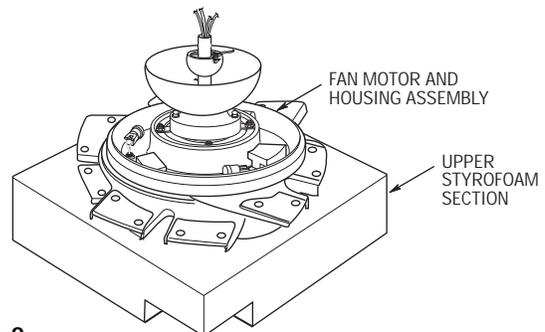

Figure 9
- 19. Lift the fan assembly from the styrofoam and remove the center styrofoam section. Turn the fan assembly over and carefully position it on the upper styrofoam section so that the hanger ball/downrod assembly is at the top (Figure 9).